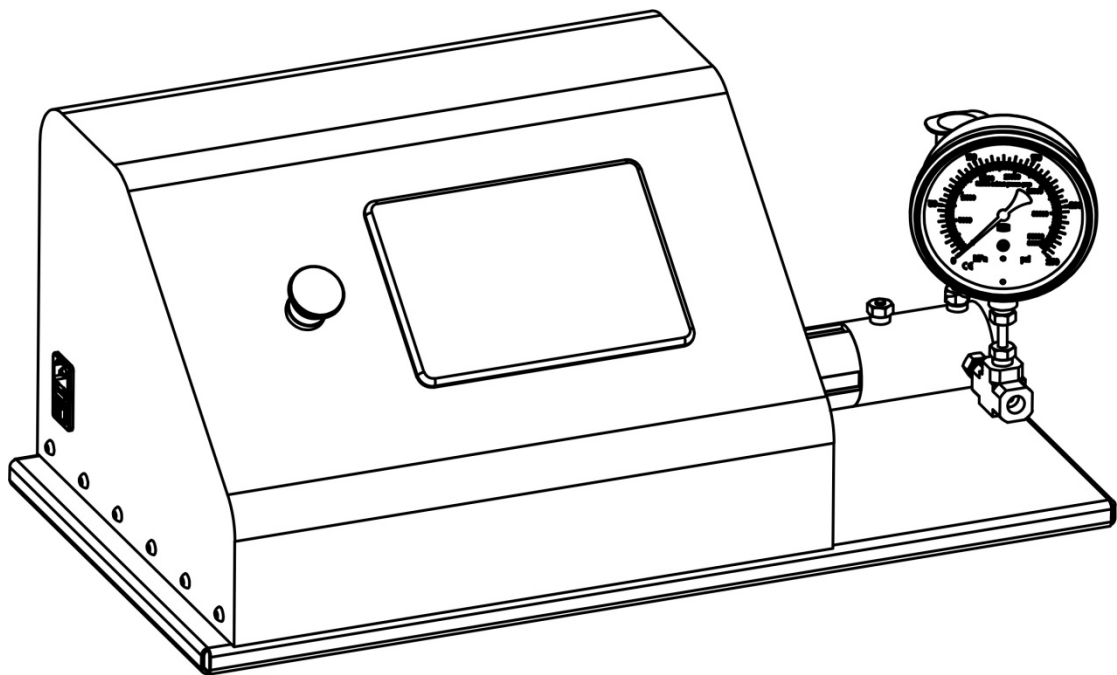
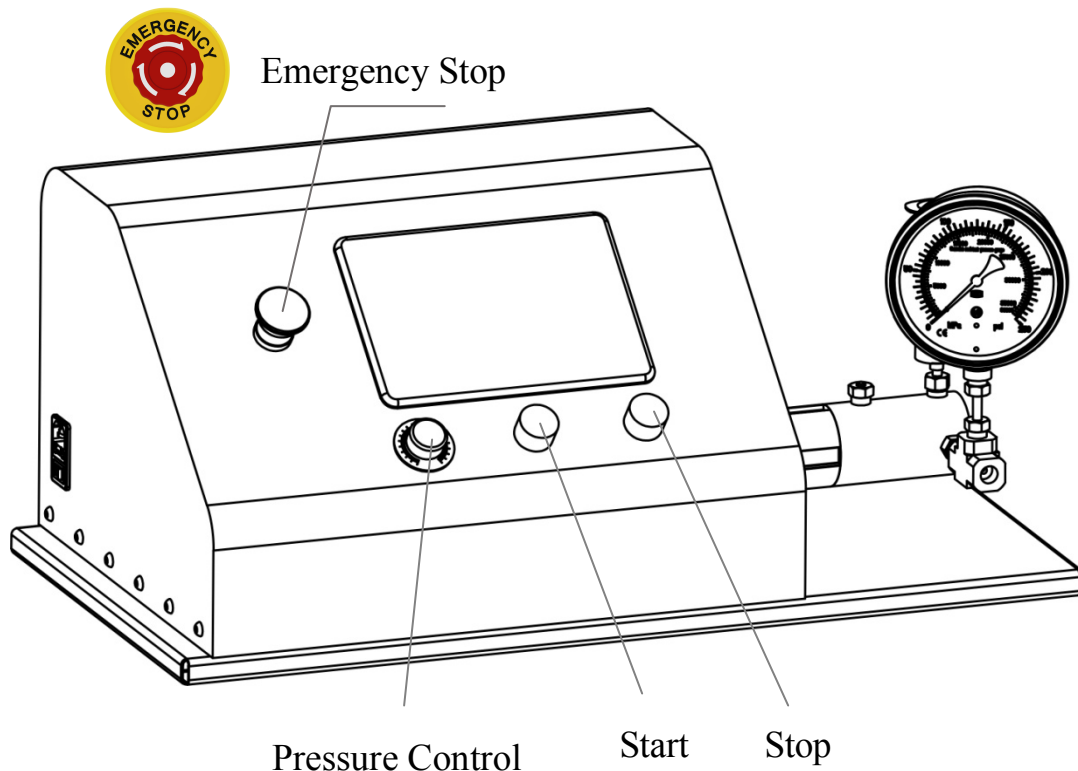

Figure 1
Figure 7
- 1) Please refer the assembled drawing to Figure 1.
Nanogenizer-110P has two optional types: traditional type (Figure 7) and standard type (Figure 1). The control system of the traditional type